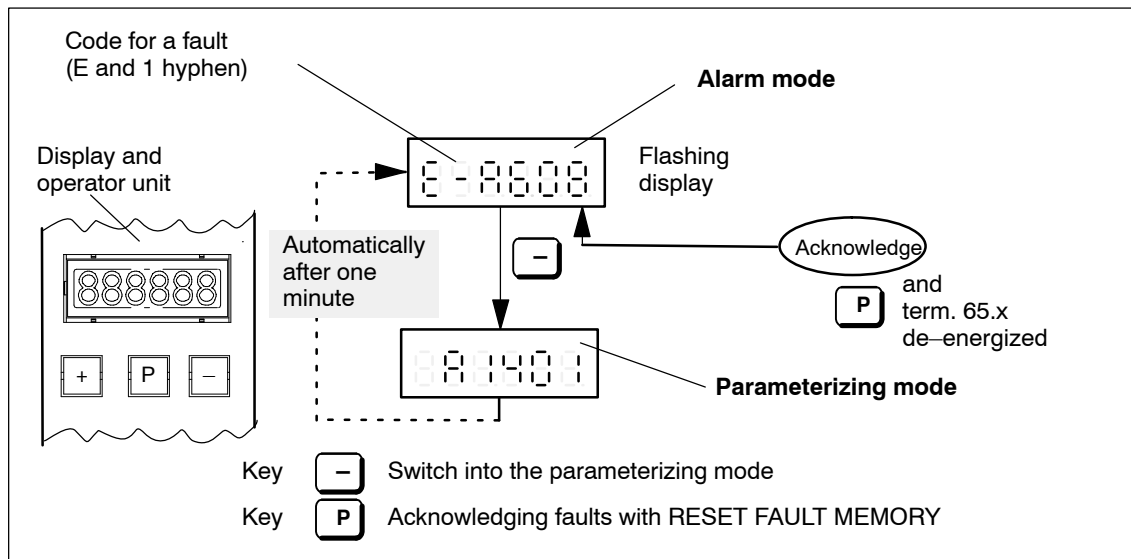

Fig. 7-1 Operator control, if a fault is present
1. This is what it looks like if a fault has occurred (refer to Fig. 7-1).